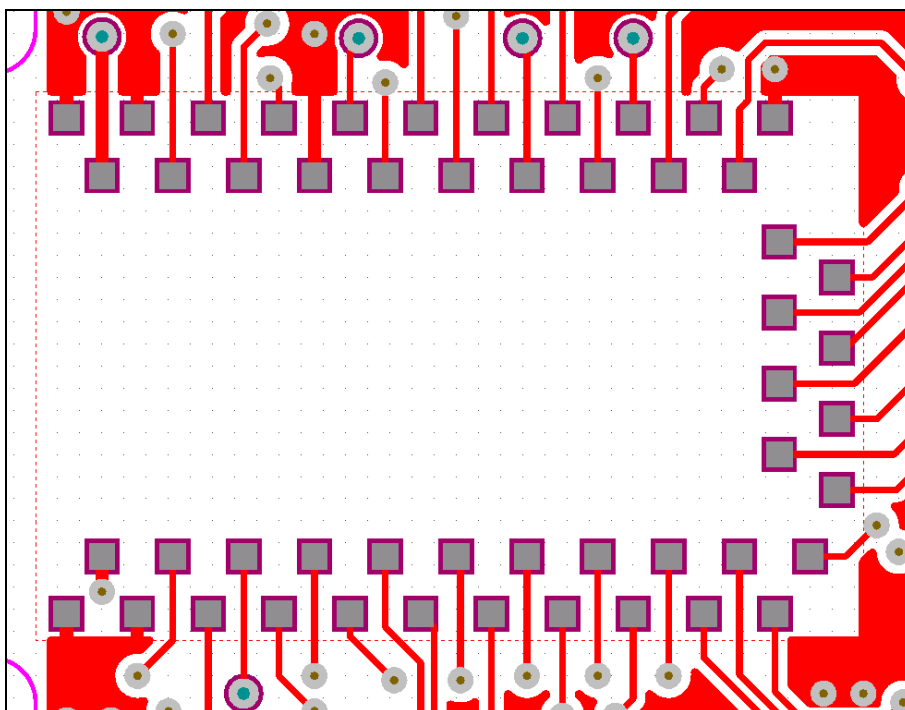

Figure 34: Exemplary base board footprint for 22M00 / 23M00 (top view)
Figure 34 shows an exemplary base board footprint for deRFmega128-22M00 and deRFmega256-23M00. Only the top layer (red) is visible. The mid and bottom layers are hidden. The rectangular signal pad copper area (red, not visible) and the paste dimension (grey) have the same size of 0.6 x 0.6 mm. The solder stop clearance (purple) has a value of 0.1 mm. Do not place copper on any other area among the entire module. Solder stop could be used everywhere.
- Route traces straight away from module (see **Figure 34**)